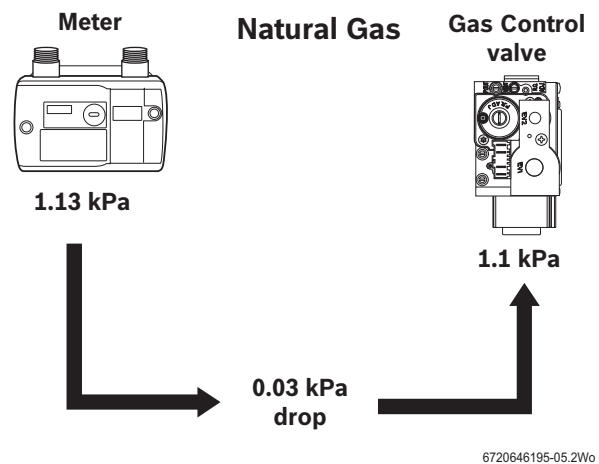

Fig. 58 Natural gas pressures
- ▶ Slacken the screw in the inlet pressure test point (1) and connect a manometer.
- ▶ Check the gas supply working pressure at the gas valve conforms to values shown in Fig. 58.